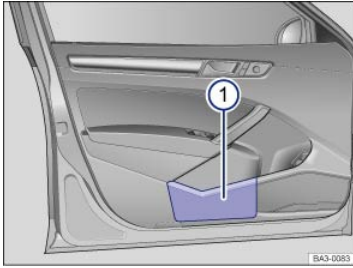

Fig. 106 In the driver door: Storage compartment.
There is a storage compartment in the driver door ⇒ Fig. 106①. In the front passenger door a storage compartment can be found in the same position. At the rear of the compartment there is an area that might be used for storing a safety vest.